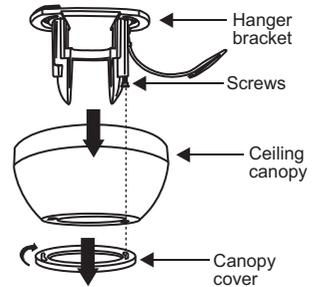

Fig. 8
1. Remove the canopy cover from the canopy by turning the cover counter clockwise. This will enable you to remove the hanger bracket. (Fig. 8)